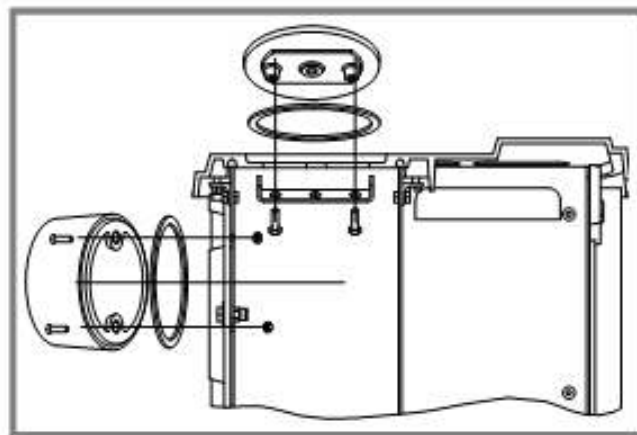

Figure 6 - Smoke exit at rear
- ✦ Fit the blanking plate and the support on the top, ensuring there is a good seal. (fig. 6).